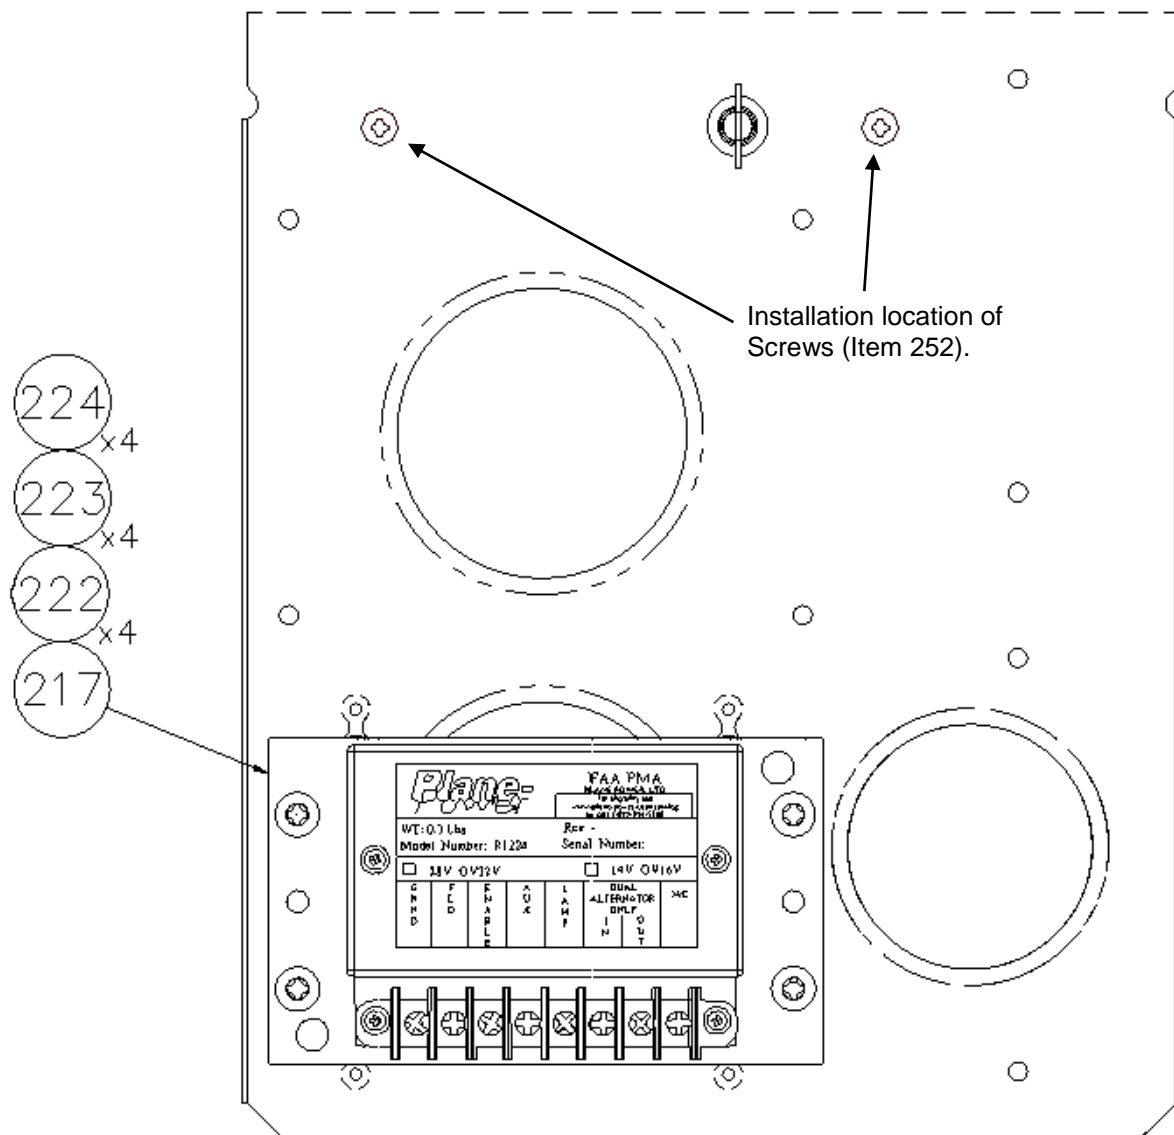

Figure 4 – Installed voltage regulator. (ACU Interface, Caution Unit and System Controller not shown).
17. Place the R1224 Voltage Regulator on the Caution Unit Tray such that the terminal strip faces downwards. Refer to Figure 4.
18. Attach the R1224 Voltage Regulator in accordance with Figure 4.
21. Re-install the Caution Unit Tray to the aircraft by fastening Camlock. Install Screws (Item 252) into the two rivnuts in cockpit side wall structure. See Figure 4.